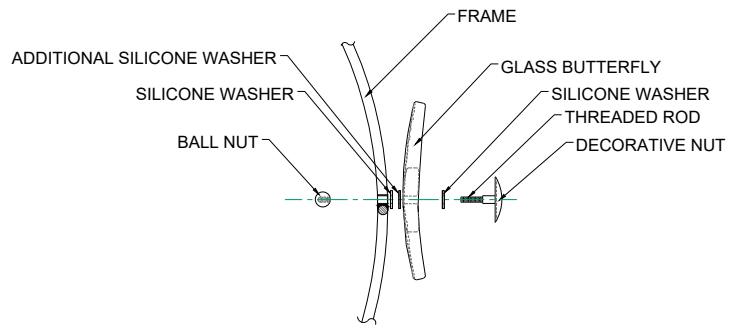

FIGURE-06
- Remove a small portion of glass (See Figure -06) near the lamp socket where a hand can be easily fit inside the fixture. Install the lamps. (type-B lamp)